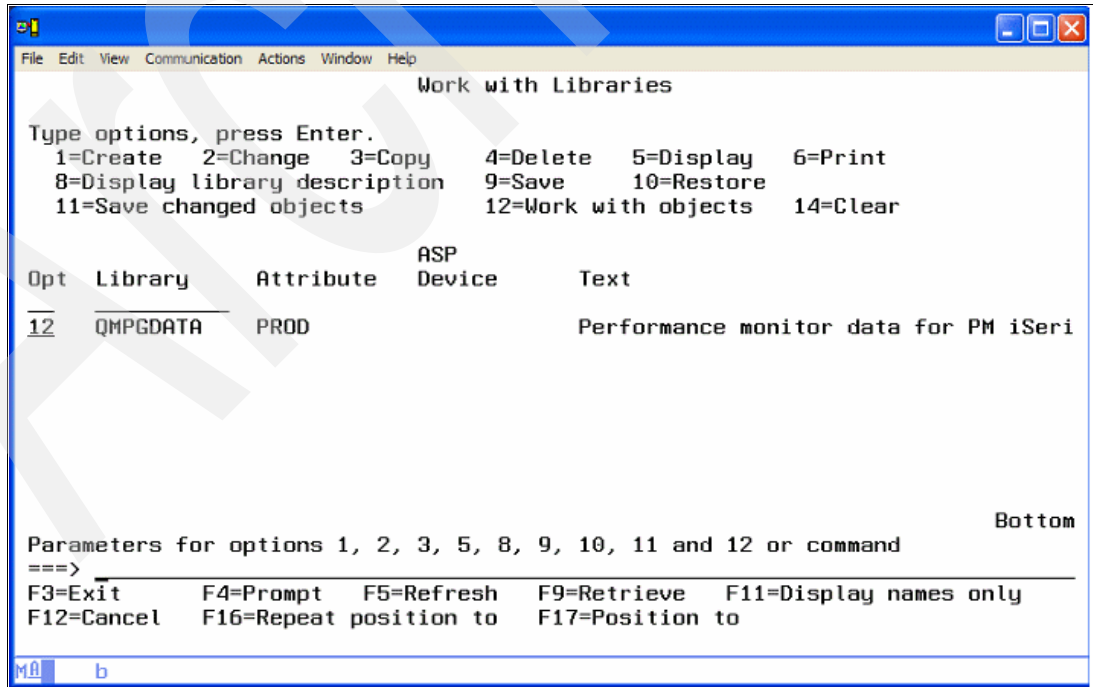

Figure A-12 Work with Libraries panel
2. In the Work with Libraries panel, select **12=Work with objects** to work with objects in the collection library (Figure A-12).